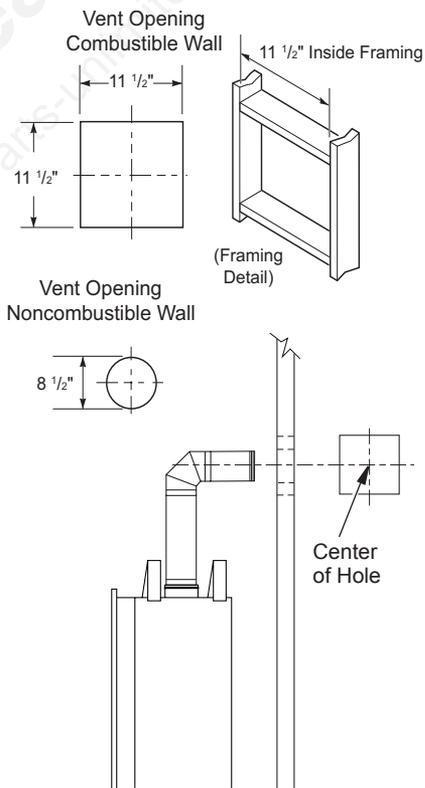

Figure 9 - Vent Opening Requirements
etrated is constructed of noncombustible material, such as masonry block or concrete, a 8 1/2" hole with zero clearance is acceptable (see Figure 9).
- open vent pipes before cutting hole in roof.) The 11 1/2" x 11 1/2" hole must be measured on the horizontal; actual length may be larger depending on pitch of roof. There must be a 1" clearance from vent pipe to combustible materials. Frame opening as shown in Figure 9, page 11.